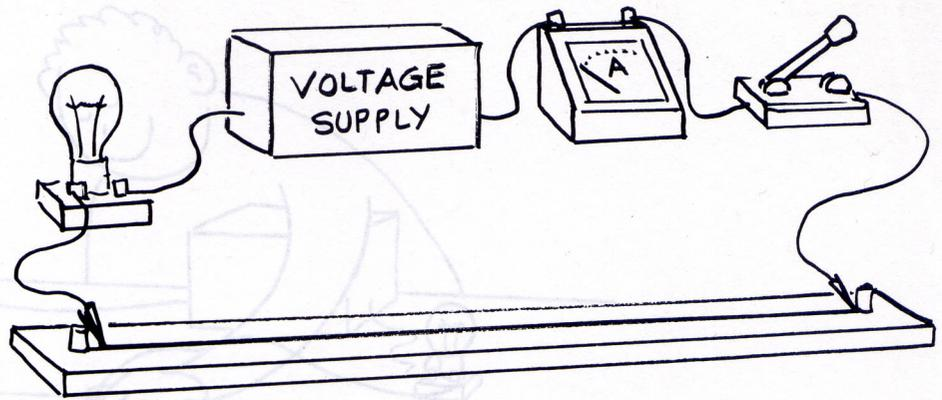

Figure 39.4
Step 5. Insert an ammeter into the circuit as illustrated in Figure 39.4.